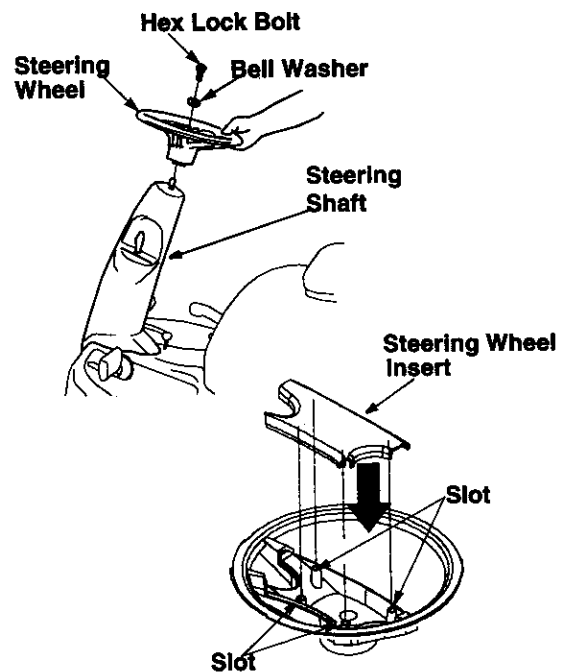

Figure 9
- With the wheels of the tractor pointing straight forward, place the steering wheel over the steering shaft, positioning the steering wheel as desired. See Figure 9.
- Press the steering wheel insert onto the steering wheel aligning the four tabs in the rear of the steering wheel insert with the four slots in the steering wheel so that the cap fits snugly. See Figure 9.